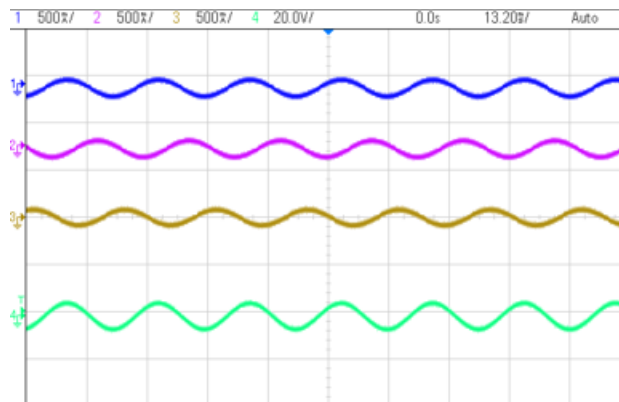

Figure 31. Build Level 2: Scope Capture IL1, IL2, IL3 and V1 (40Vrms L-N) With Current Loop Closed
6. As soon as the trip is cleared, a sinusoidal current will be seen to be drawn from the input, which verifies correct operation of the current loop. The waveform will look like Figure 31.